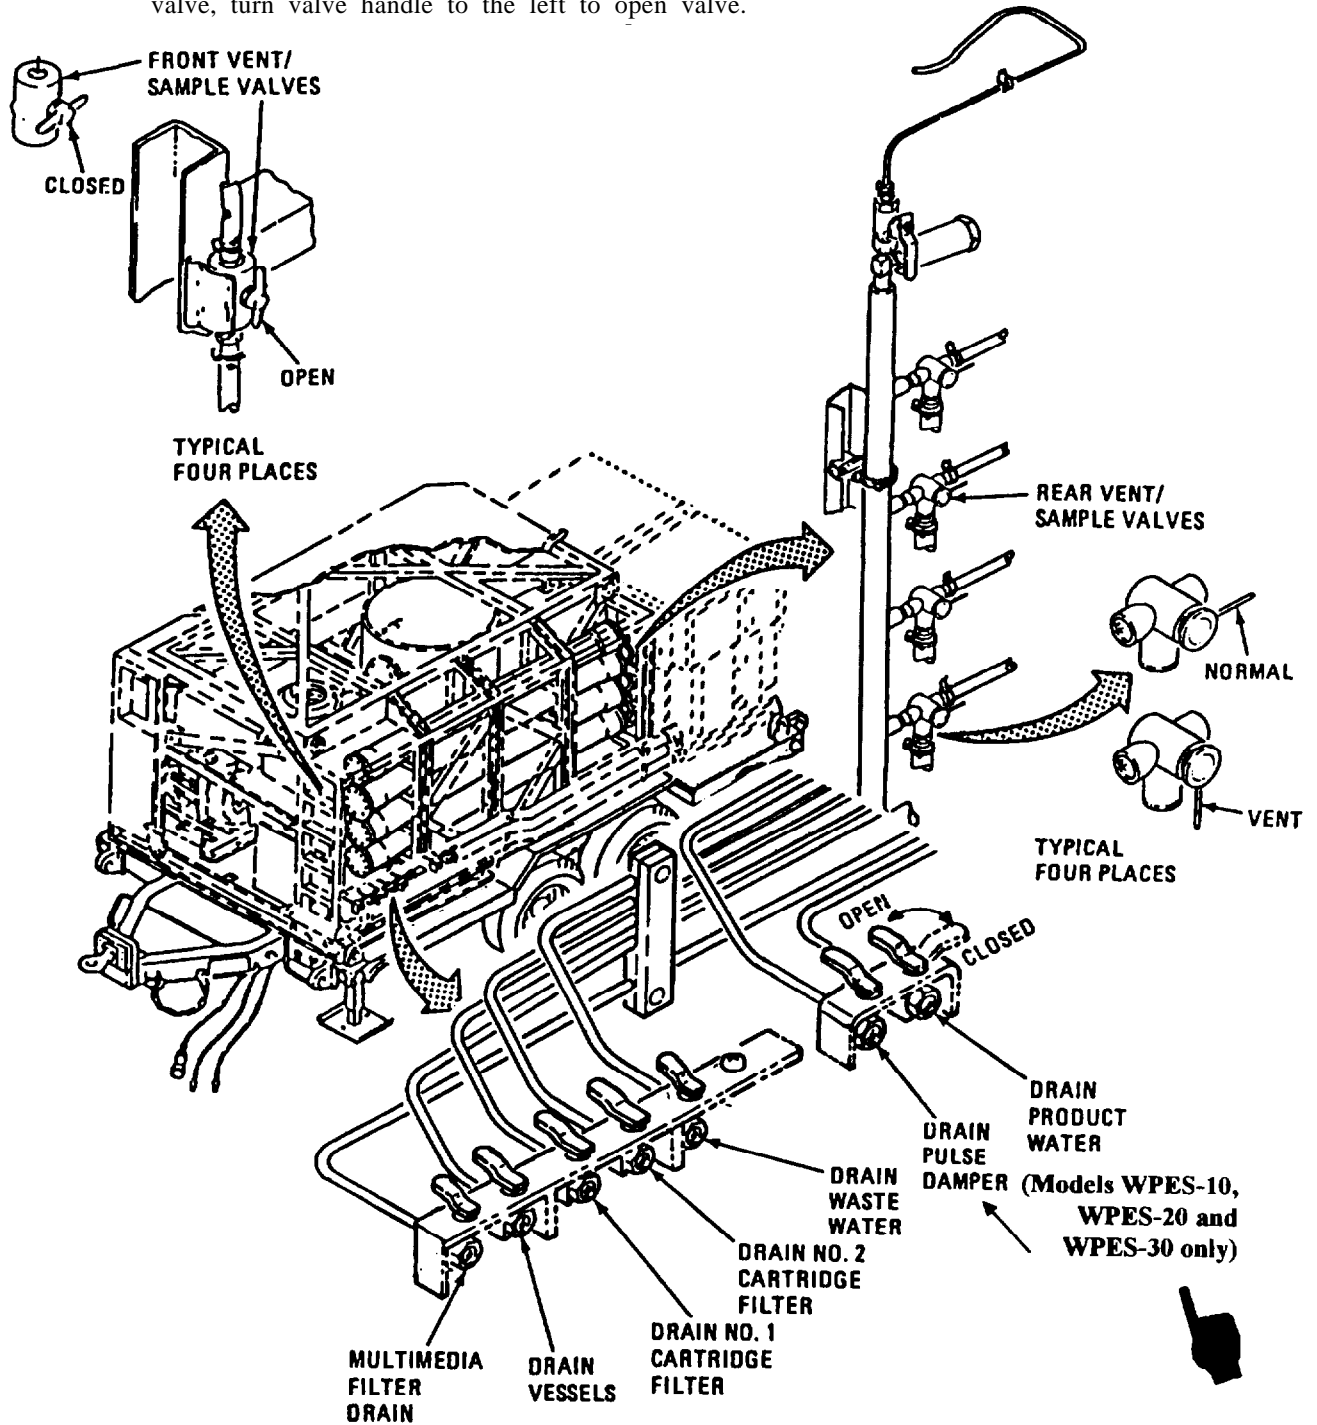

Figure 2-10. Drain Valves.
- i. Drain Valves. Refer to figure 2-10. Seven drain valves are located at front of ROWPU below the R.O. tubes. These valves are used to draw samples at various stages of purification and to drain water from unit before moving. Turn valve handle to the right (towards back of unit) to close valve, turn valve handle to the left to open valve.